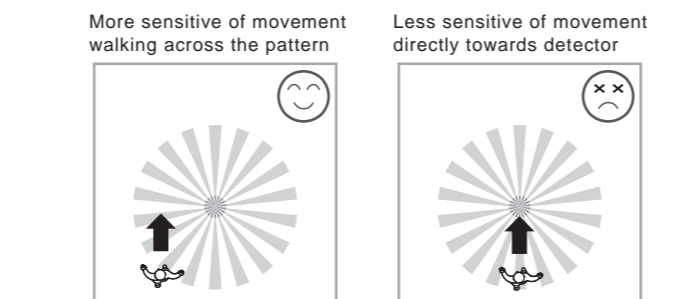

FIG.3
- 3.1.2 Pay attention to the walking direction in the test proceeding. It is more sensitive to movement across the detector and less sensitive to movement directly toward to detector which will reduce the detection coverage (See FIG.3).